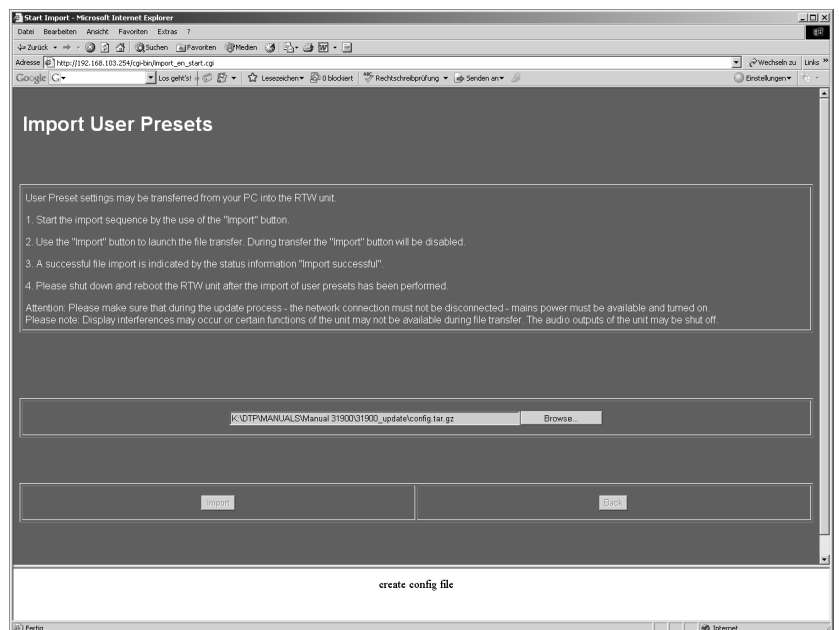

Fig. 8-24: The data transfer of the user settings is running
6. "Create config file" is displayed while the transfer is running (see Fig. 8-24).